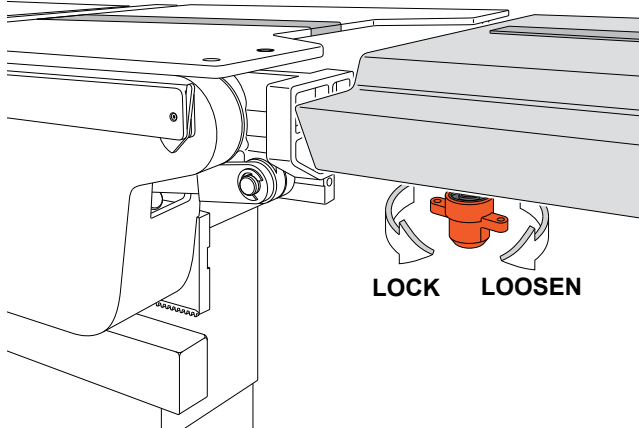

Figure 3. Leg Section Lock
4. Lock the leg section to the leg axis pins by twisting both T-handles counterclockwise until an audible click is heard. Ensure the leg section is securely attached (Figure 3).
3. Remove the leg section by twisting the T-handles in a clockwise direction to loosen (Figure 3).